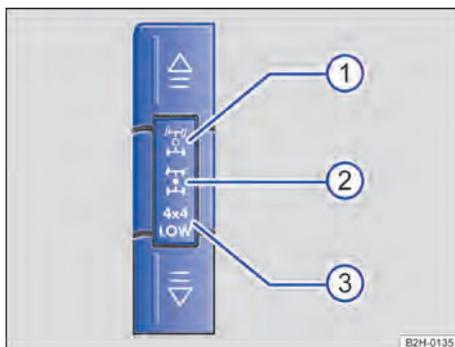

Fig. 109 In the centre console: Buttons and symbols for switching all-wheel drive on and off.
On vehicles with selectable all-wheel drive, the drive which was last active when the engine was switched off is always initially active. There are two levels for all-wheel drive which are selected manually using the buttons in the centre console → Fig. 109.
Use the rear-wheel drive on dry roads with solid ground. When the rear-wheel drive is switched on, the symbol → Fig. 109 ① lights up in the centre console.
1. Press the  button once. The I-I symbol flashes for a few seconds in the instrument cluster. All-wheel drive (4X4 HIGH) is selected if the symbol I-I is lit up continuously in the instrument cluster and in the centre console → Fig. 109 ②.
2. Press the  button with the engine is running and with the all-wheel drive (4X4 HIGH) switched on. The 4X4 LOW symbol flashes for a few seconds on the instrument cluster. The all-wheel drive low gear range (4X4 LOW) is selected if the 4X4 LOW symbol is lit up continuously → Fig. 109  on the instrument cluster and in the centre console.